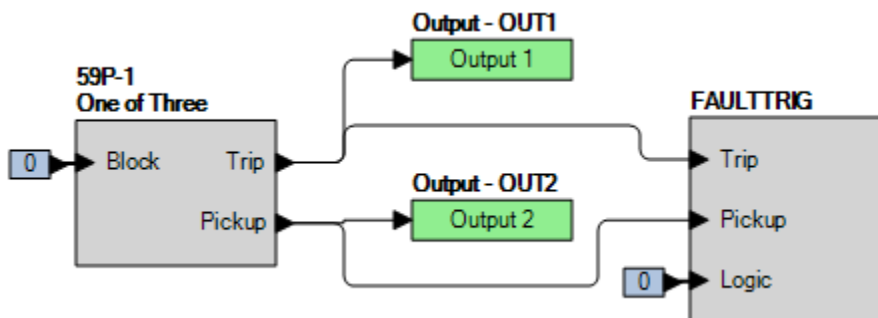

Figure 59-1. BESTlogic_{Plus} Settings
Step 2: Use BESTCOMSP_{Plus} to configure the BESTlogic_{Plus} programmable logic shown in Figure 59-1.
Step 4: Prepare to monitor the 59P-1 function operation. Operation can be verified by monitoring OUT2 (see Figure 59-1).